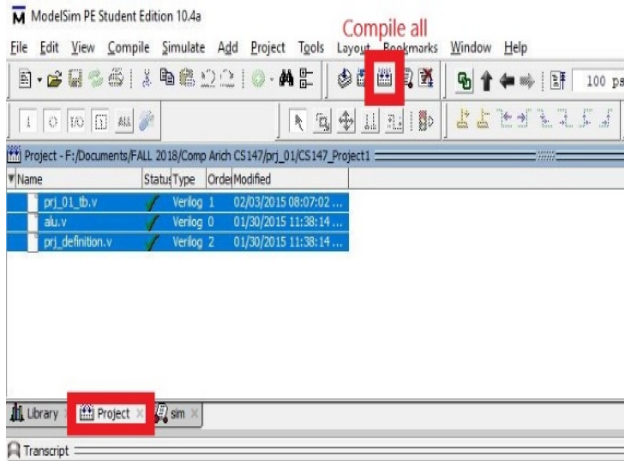

Figure 2.6 Project Window and Compilation of files
- 4) Select all files on “Project” tab and click “Compile all” and green check point mark will appear as in Figure 2.6